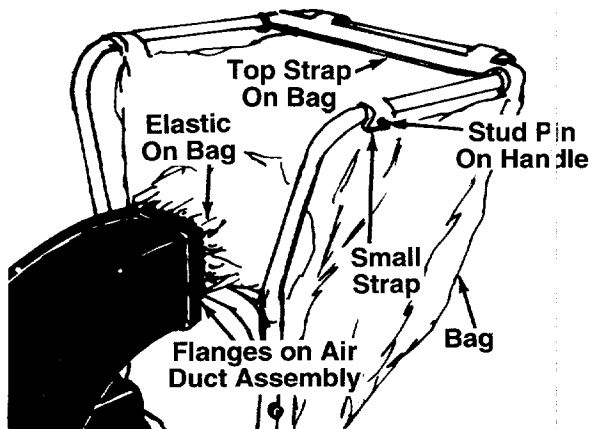

FIGURE 8.
2. Assemble the bag by slipping the top straps on bag over upper handle. Hook two small straps over stud pins on handle. Slip elastic opening of bag over air duct assembly. Be certain elastic on bag is placed over the flanges on air duct assembly. ← See figure 8.